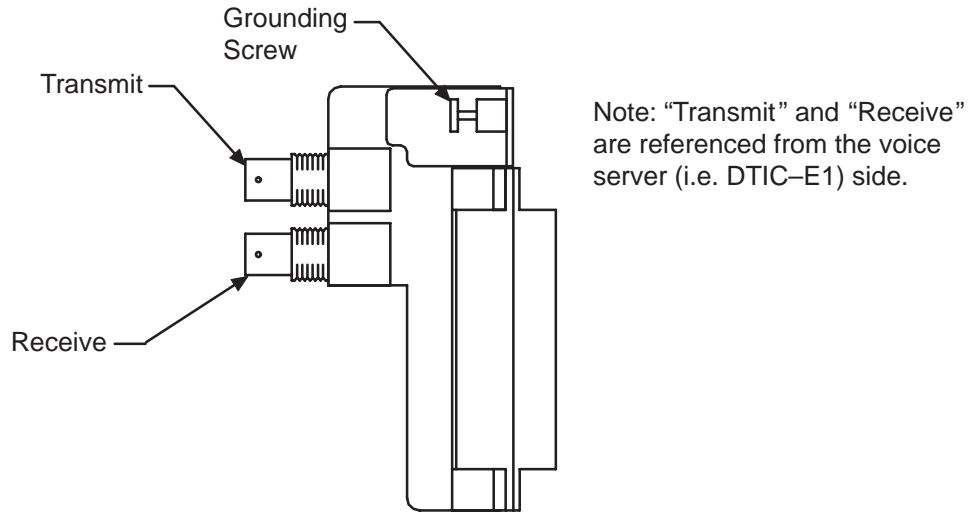

Figure 9-13 75-ohm DTIC-E1 Adapter
- c. Attach the customer-provided 75-ohm transmit and receive coax cables to the appropriate coax connectors on the adapter where shown in Figure 9-13. Go to step 5.